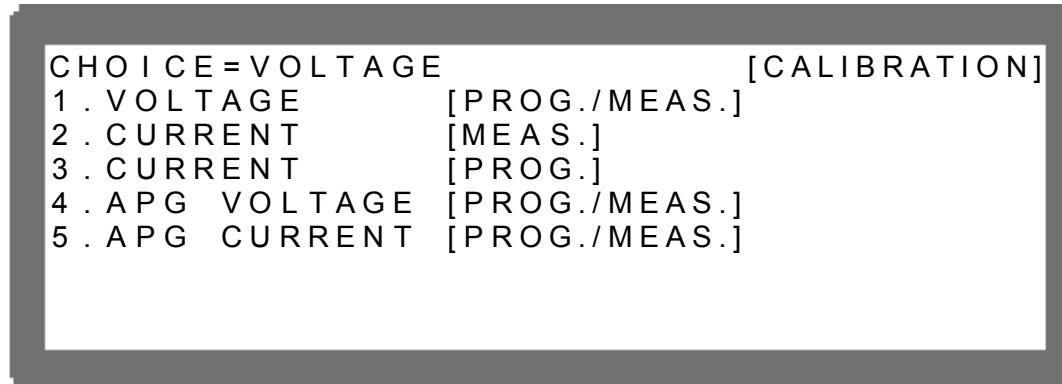

Figure 3-97
3. Enter the password and press “ ” to confirm. The screen will display 4 calibration options as shown in Figure 3-97. The calibration steps are described in Sections 3.3.7.1 to 3.3.7.5.
1. Enter into the main CALIBRATION page (see Figure 3-97).